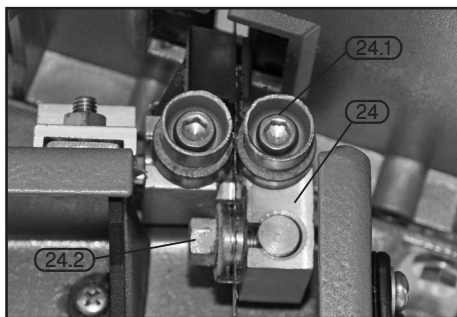

FIG. 18
9.9 ADJUSTING THE LOWER BLADE GUIDES – FIG. 18